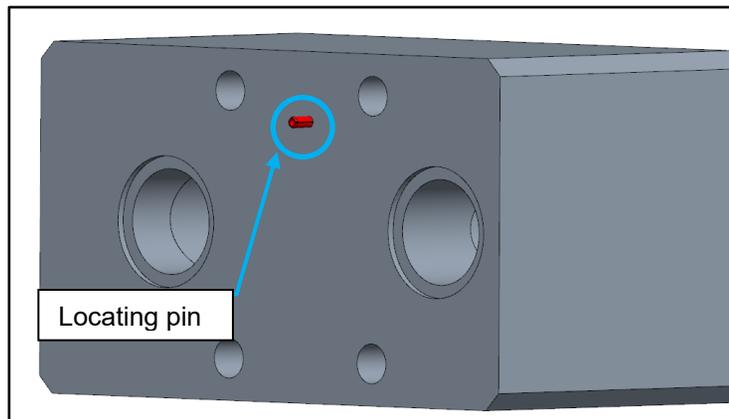
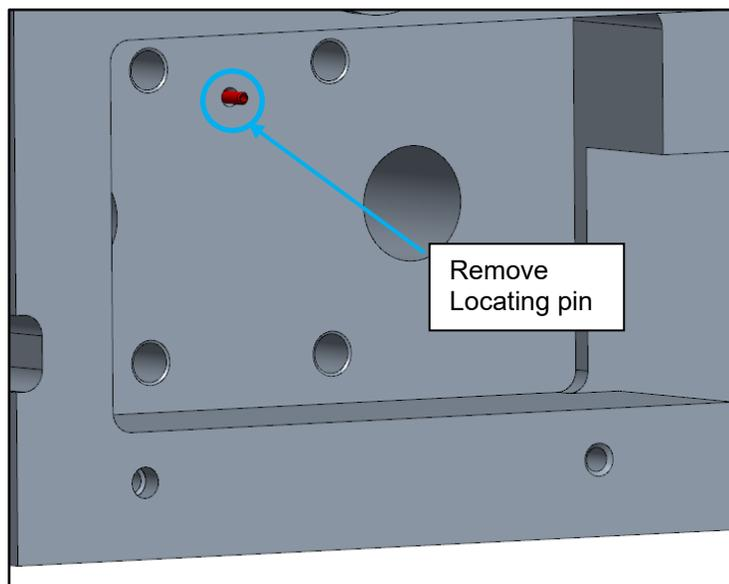

Figure 4-5. Shuttle Valve Locating Pin
Figure 4-6. Shuttle Valve Locating Pin in VS-DX Manifold
6. Verify the locating pin is present in the shuttle valve (Figure 4-5). If not, remove it from the VS-DX manifold (Figure 4-6).